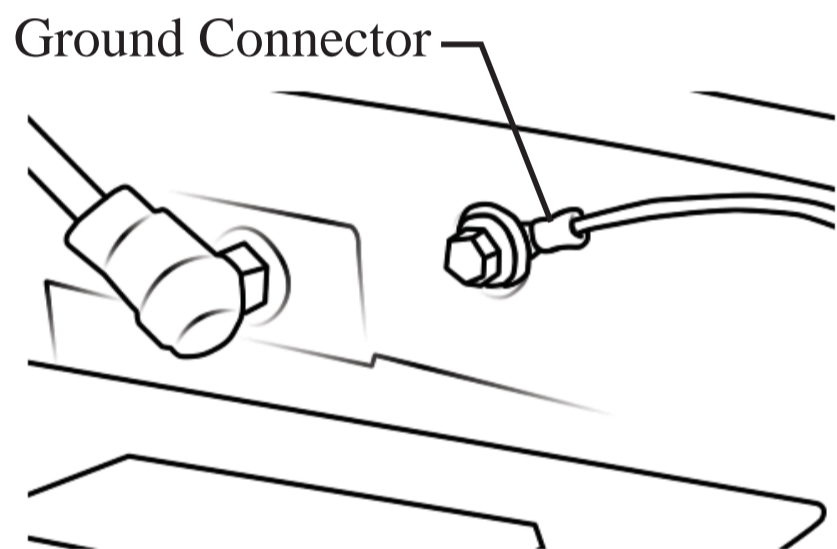

Figure 4 - Ground Connections
3. Replace and tighten the bolt. (See Figure 4)